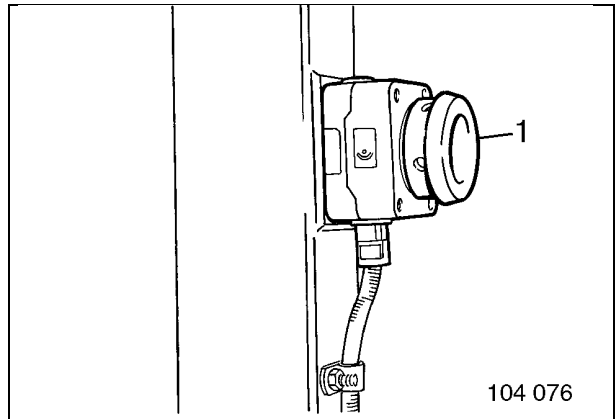

Fig. 3
(Fig. 3)
- EMERGENCY STOP mushroom-head pushbutton (1, Fig. 3) unlocked